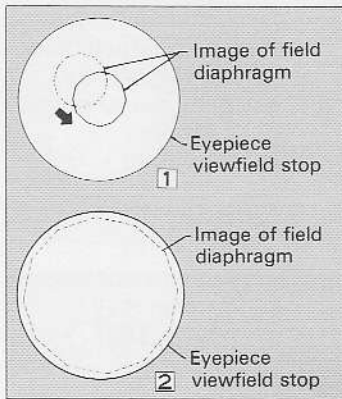

Fig.3-13
14) Focus and center the condenser lens (Fig. 3-13).